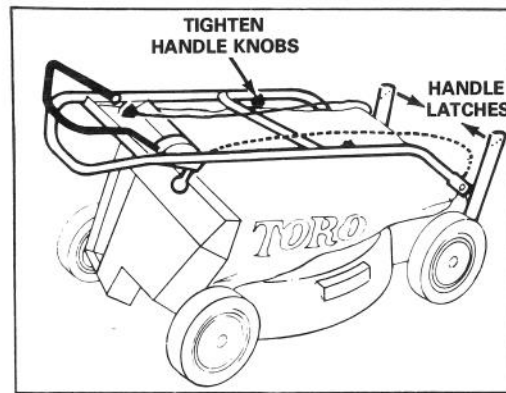

Figure 1
1. Align handles and tighten handle knobs (Fig. 1). Bend handle latches slightly toward each other.